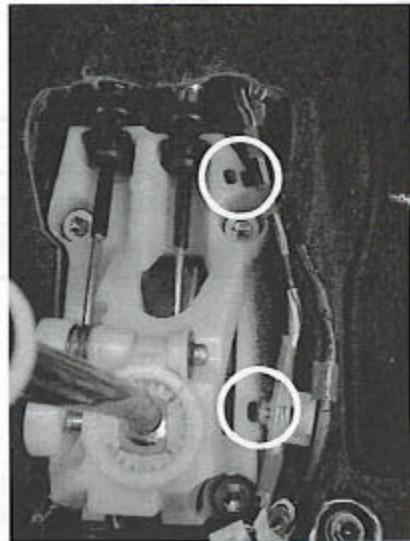

Figure 2
6. Remove the wire harness clips from the shift lever assembly (Figure 2).